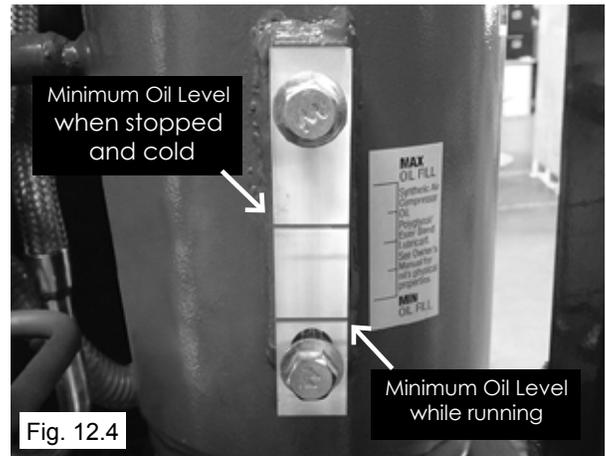

Fig. 12.4
2. The oil level must be above the upper red line after the compressor is off has been stopped for thirty minutes. The oil level when the compressor is running must be between the upper and lower red line indicated on the Oil Level Site glass. (See Fig. 12.4 )